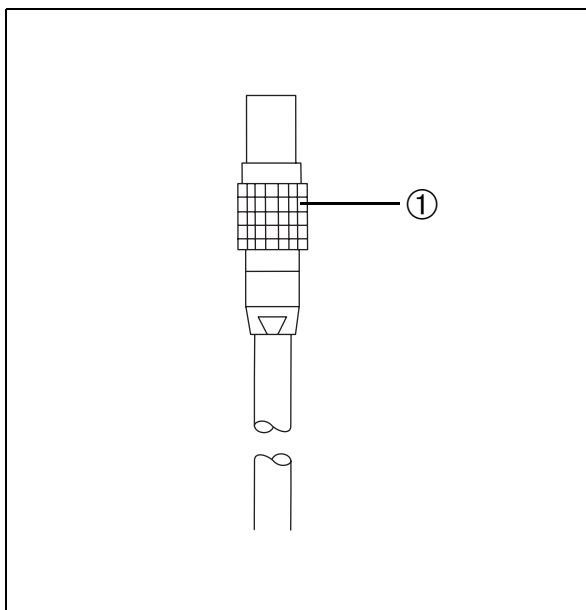

Fig. 76
The end of the surgical motor's hose that is nearest to the unit is fitted with a quick coupling ① (Fig. 76), which can be attached to the side or base of the unit.
- Make sure that the coupling ① (Fig. 76) on the motor hose is attached to the base of the unit.